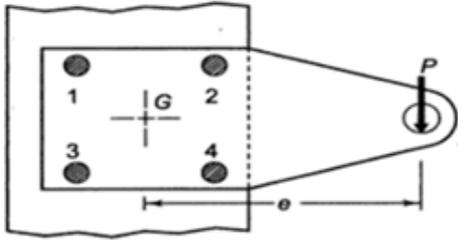

Figure.5a
5. a) The structural connection shown in the Figure.5a is subjected to an eccentric force  $P$  of 10 kN with an eccentricity 'e' equal to 500 mm from the center of gravity of the bolts. The center distance between bolts 1 and 2 is 200 mm and the center distance between bolts 1 and 3 is 150 mm. All the bolts are identical. The bolts are made from plain carbon steel 30C8 (yield strength  $S_{yt}=400 \text{ N/mm}^2$ ) and the factor of safety is 2.5. Determine the size of the bolts. 8 M